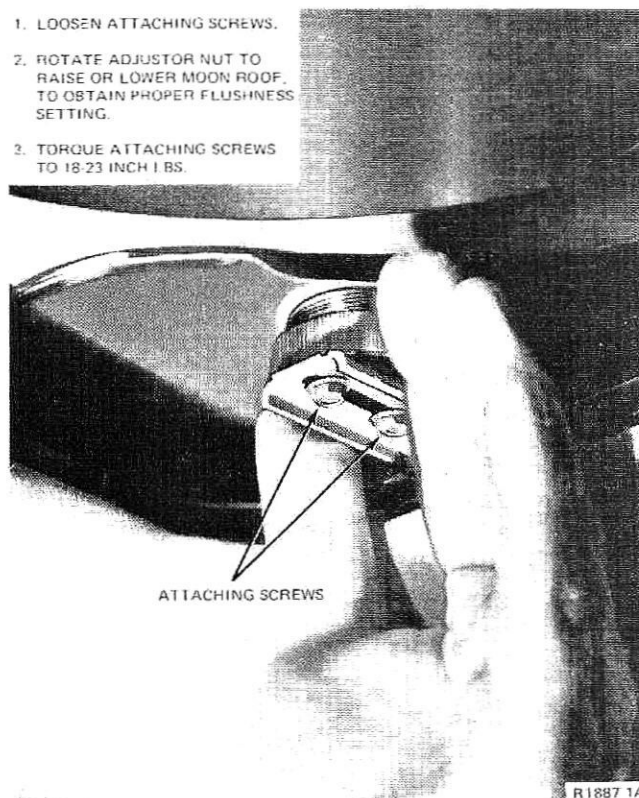

FIG. 18 Front Sliding Panel Flushness Adjustment
2. To raise or lower the forward edge of the sliding panel, loosen the forward track shoe retaining screws. Refer to Fig. 18. Rotate the adjuster (clockwise lowers panel, counterclockwise raises panel) as required to obtain a flush fit to adjacent roof panel. Re-torque the track shoe attaching screws to 18-23 in-lbs.